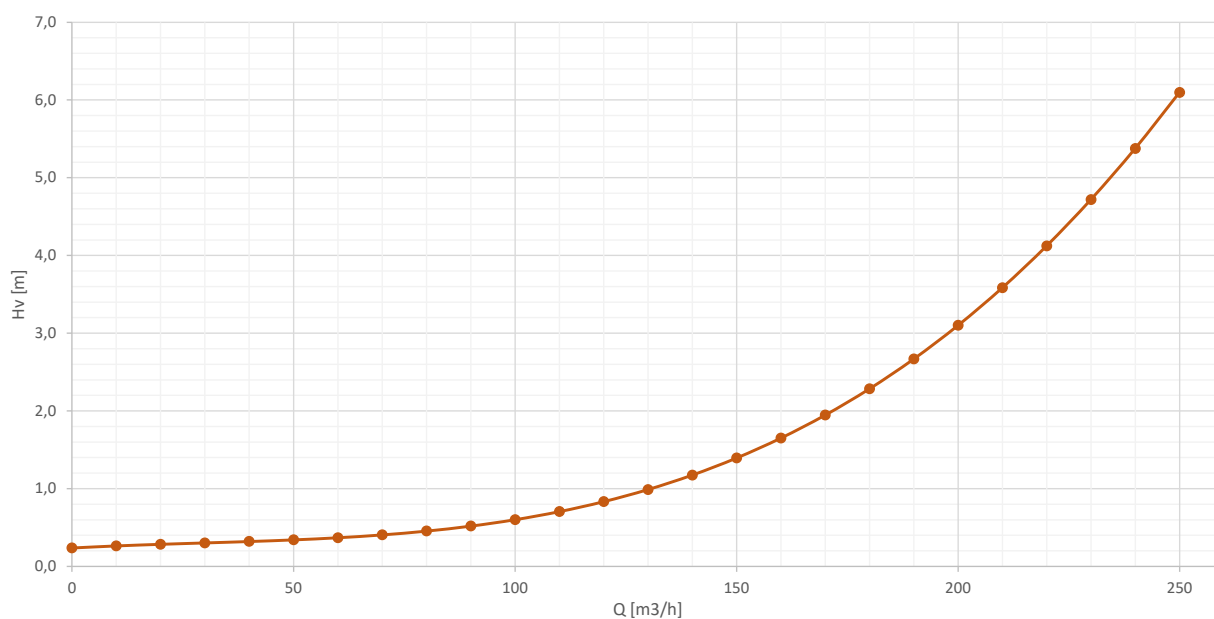

Fig. 7: Loss curve for UPA S 200-135
1. Refer to the corresponding loss curve to determine and take into account the head loss caused by the lift check valve. (⇒ Fig. 7)